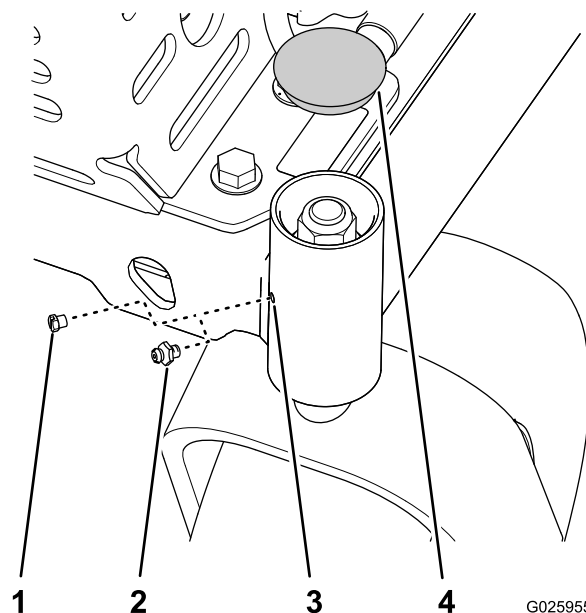

Figure 31
1. Remove cap and hex plug from the top of the caster pivot (Figure 31).
2. Thread grease fitting in hole (Figure 31).
3. Pump grease into the fitting until grease oozes out around top bearing (Figure 31).
4. Remove grease fitting and install the plug that you removed in 1 (Figure 31).
5. Install the cap that you removed in step 1 (Figure 31).